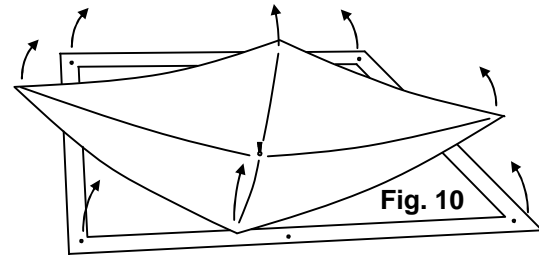
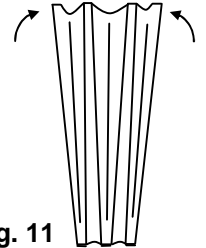

Fig. 10
Fig. 11
4) Remove last Ice Anchor and Fold all corners up. (Fig. 10) & (Fig. 11)